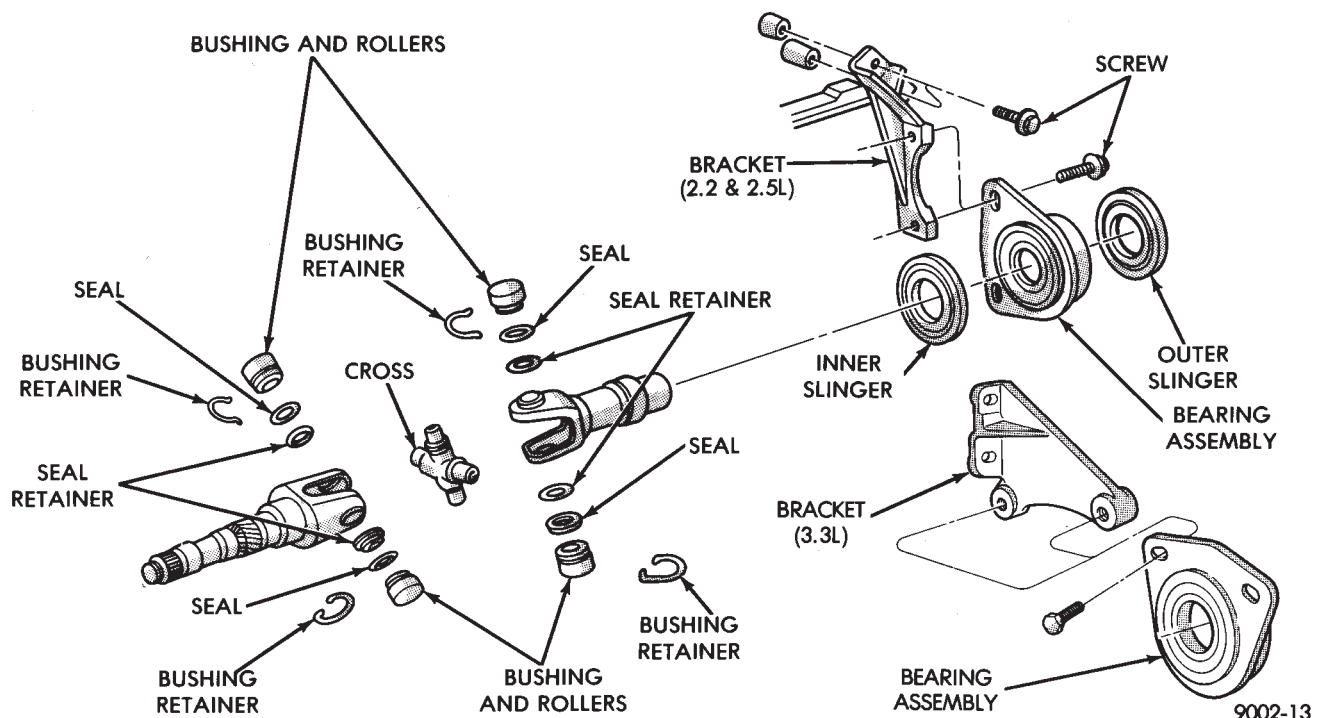

Fig. 1 Intermediate Shaft Assembly
Reconditioning of the Intermediate Shaft Assembly (Fig. 1) for the Equal Length Drive Shaft System vehicles is the same for the manual and automatic transaxles.
- (3) Remove the two bolts which mount the bearing assembly bracket to the engine block (Fig. 1).